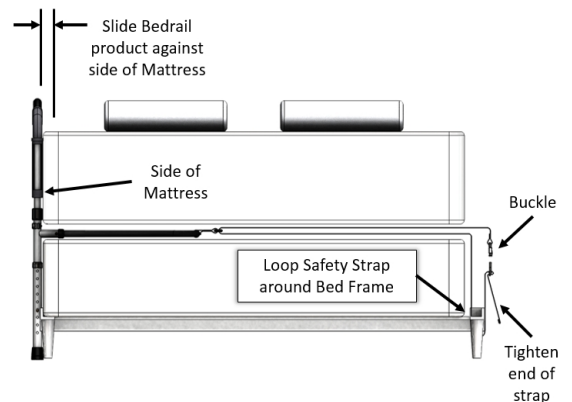

FIGURE 7
8. It is important that the Bedrail is secured to the Side of the mattress. The Safety Strap is looped around the Bed Frame on the opposite side of the bed, buckled, and tightened as show in Figure 7.